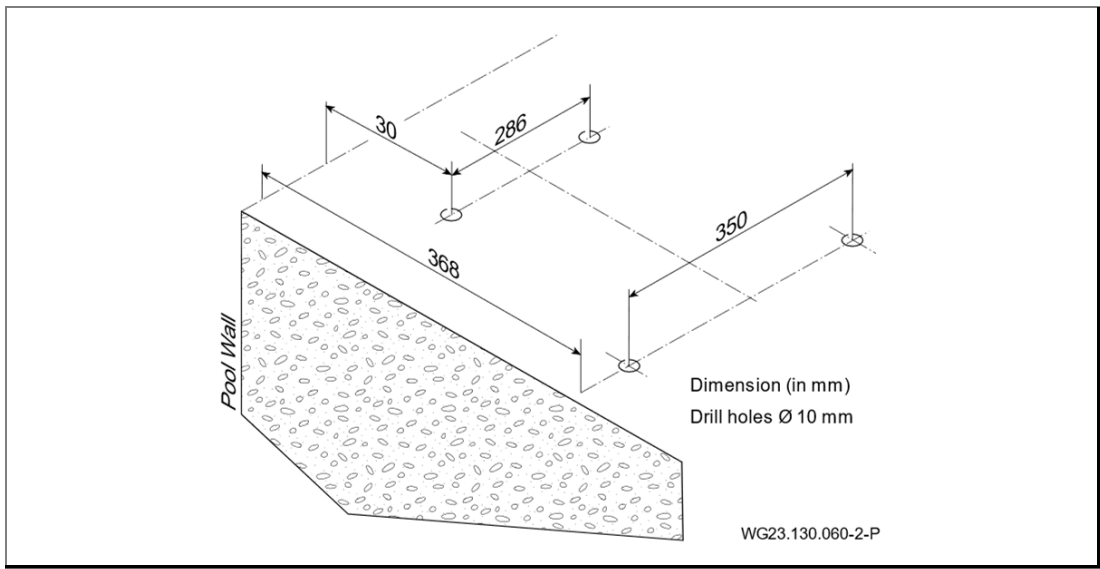
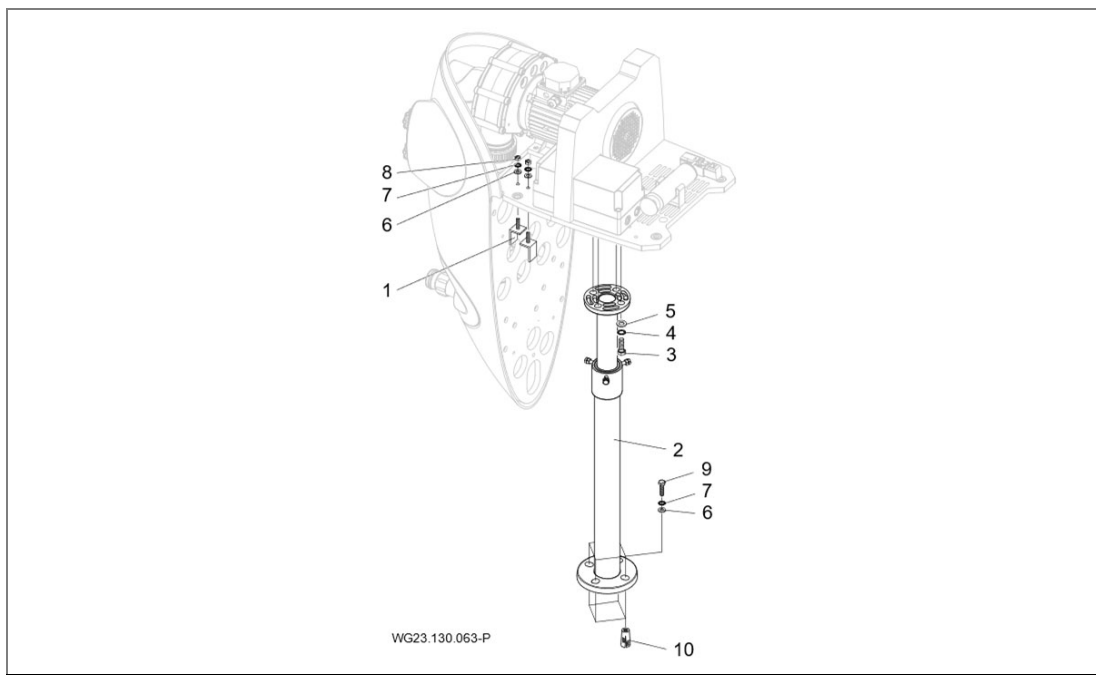

Fig. 4
Fig. 5
- ➔ Select the assembly site and prepare it in accordance with Fig. 4. If the unit is being used in an above ground pool, the telescopic support foot must be used, for attachment instructions See "Fig. 5" on page 19.
- ➔ Lift the unit and drill the Ø10 mm holes on the markings. See "Fig. 4" on page 18